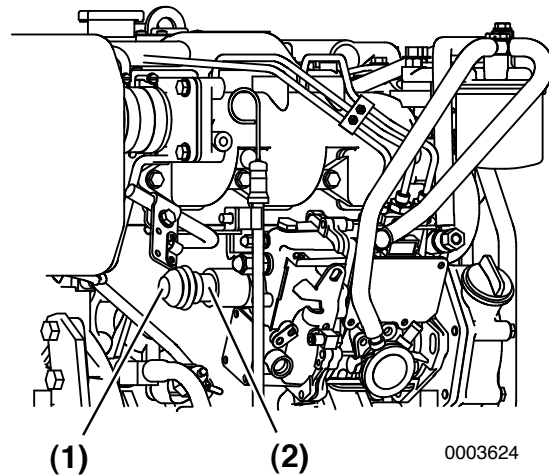

Figure 5
If the engine cannot be shut down by the STOP button on the panel, stop the engine by pushing the button (**Figure 5, (1)**) at the back of the stop solenoid (**Figure 5, (2)**).